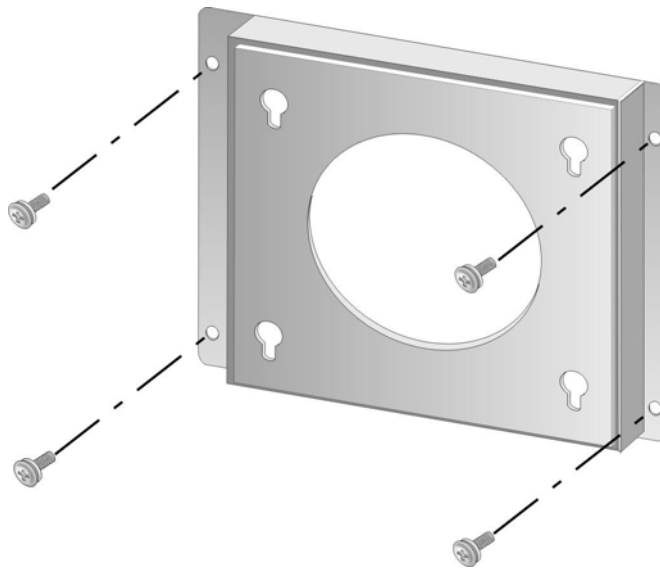

Figure 3-8: Wall-mounting Bracket
- Step 5:** Secure the mounting-bracket to the wall by inserting the retention screws into the four pilot holes and tightening them (**Figure 3-8**).